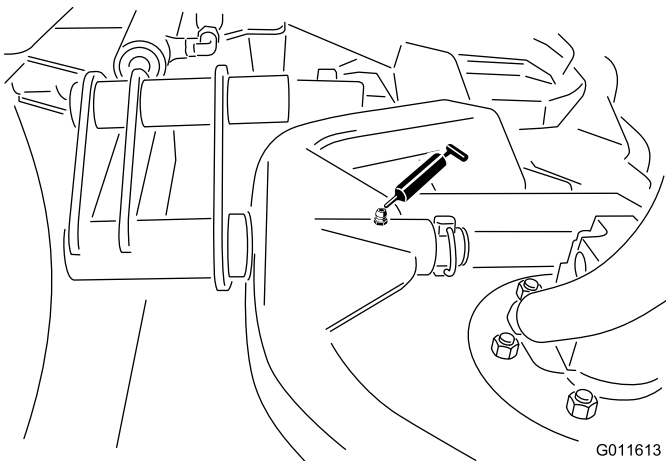

Figure 33
- Cutting unit carrier frame pivot (1 each) (Figure 33)